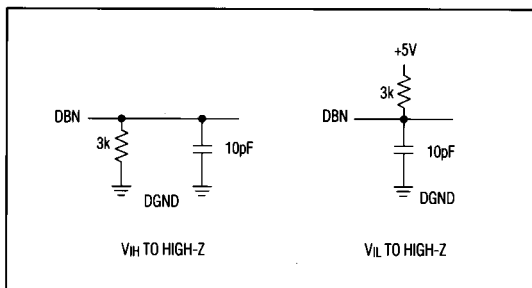

Figure 4. Load Circuits for Output Float Delay Test ( $t_{12}$ )
**Note 7:** t12, the time required for the data lines to change 0.5V, is measured with the load circuits of Figure 4.